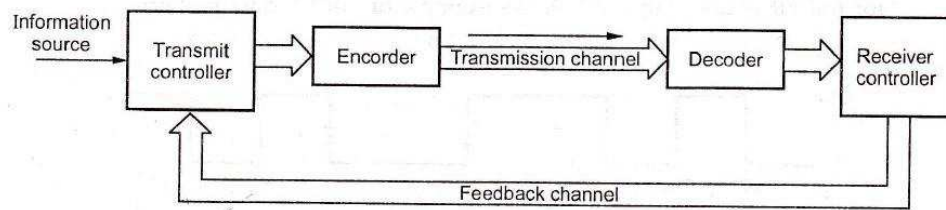

Fig. 6.2.6 ARQ scheme
- x Each retransmission adds one round trip time of latency. Therefore ARQ techniques are not used where low latency is desirable. Fig. 6.2.6 shows the scheme of ARQ error correction scheme.